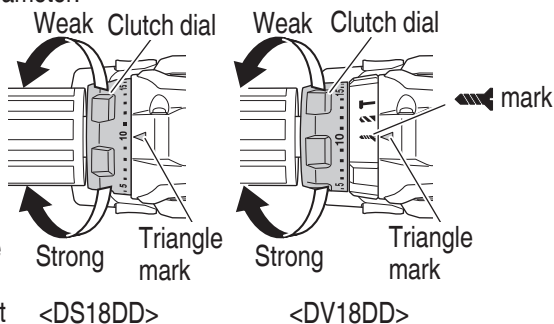

Fig. 17
(2) Tightening torque indication (See Fig. 17)
- (3) Adjusting the tightening torque (See **Fig. 17 on page 43**)